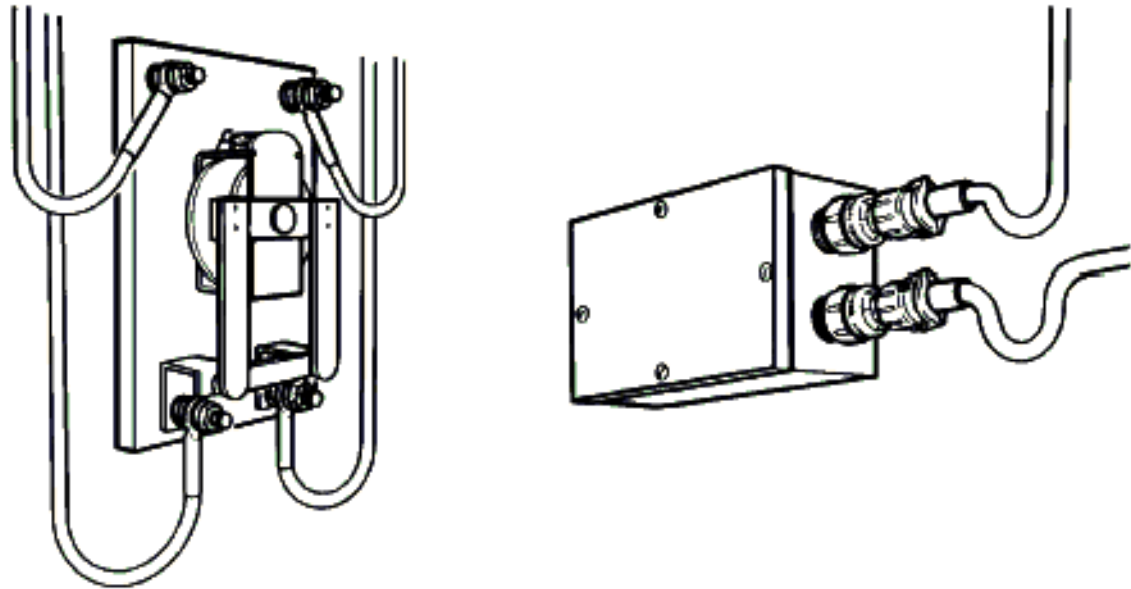

Figure 13. Drip Loop
21. **DRIP LOOP.** Where wiring is dressed downward to a connector, terminal block, panel, or junction box, a trap, or drip loop, shall be provided in the wiring to prevent fluids or condensation from running into the above devices. Potted connectors are exempt from this requirement (Figure 13).